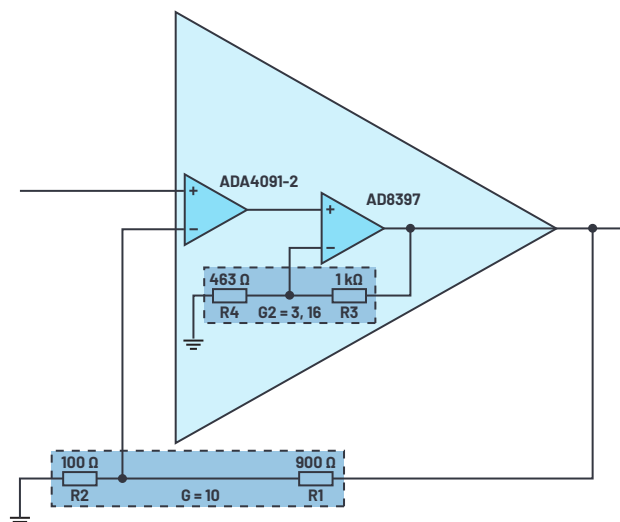

Figure 1. Schematic diagram of two op amps connected in series to form a composite amplifier.
A composite amplifier consists of an arrangement of two individual amplifiers, often with different characteristics. Such an arrangement is shown in Figure 1. Amplifier 1 represents the low noise precision amplifier, ADA4091-2. Amplifier 2, in this case the AD8397, features a high output power that serves to drive additional modules.
The configuration of the composite amplifier shown in Figure 1 is similar to that of a noninverting amplifier in which the two resistors, R1 and R2, act externally. The two op amps connected in series should be considered a single amplifier. The total gain (G) is set via the resistance ratio,  $G = 1 + R1/R2$ . A change in the ratio of R3 to R4—and in effect, the gain of amplifier 2 (G2)—also affects the gain or output level of amplifier 1 (G1). The effective total gain is not changed by R3 and R4. If G2 decreases, G1 increases.
In a typical op amp circuit, part of the output is fed back to the inverting input. In this way, output errors can be corrected via the feedback path to improve accuracy. The combination shown in Figure 1 also offers a separate feedback path for amplifier 2, although it is in the feedback path of amplifier 1. The output of the overall arrangement contains larger errors due to amplifier 2, but they will be corrected as they are fed back to amplifier 1. Thus, the accuracy of amplifier 1 is retained. The output offset is only proportional to the error of the first amplifier and remains independent of the offset of the second one.
Through a combination of two amplifiers connected in series, the best characteristics of both can be combined while achieving results that are unattainable with individual op amps. For example, a high precision amplifier with a high output power and a higher bandwidth can be achieved. Figure 1 shows an example of a circuit with the rail-to-rail amplifier, AD8397 (-3 dB bandwidth = 69 MHz), and the precision amplifier, ADA4091-2 (-3 dB bandwidth = 1.2 MHz), which in combination have a bandwidth that is more than twice as high as they each have individually (at  $G = 10$ ). Furthermore, with the combination of the AD8397 and various precision amplifiers, noise reduction as well as THD improvements can be achieved. However, in the design, system stability must also be ensured through a correct amplifier configuration. If all criteria are considered, the composite amplifier offers numerous possibilities for covering a very wide and demanding range of applications.